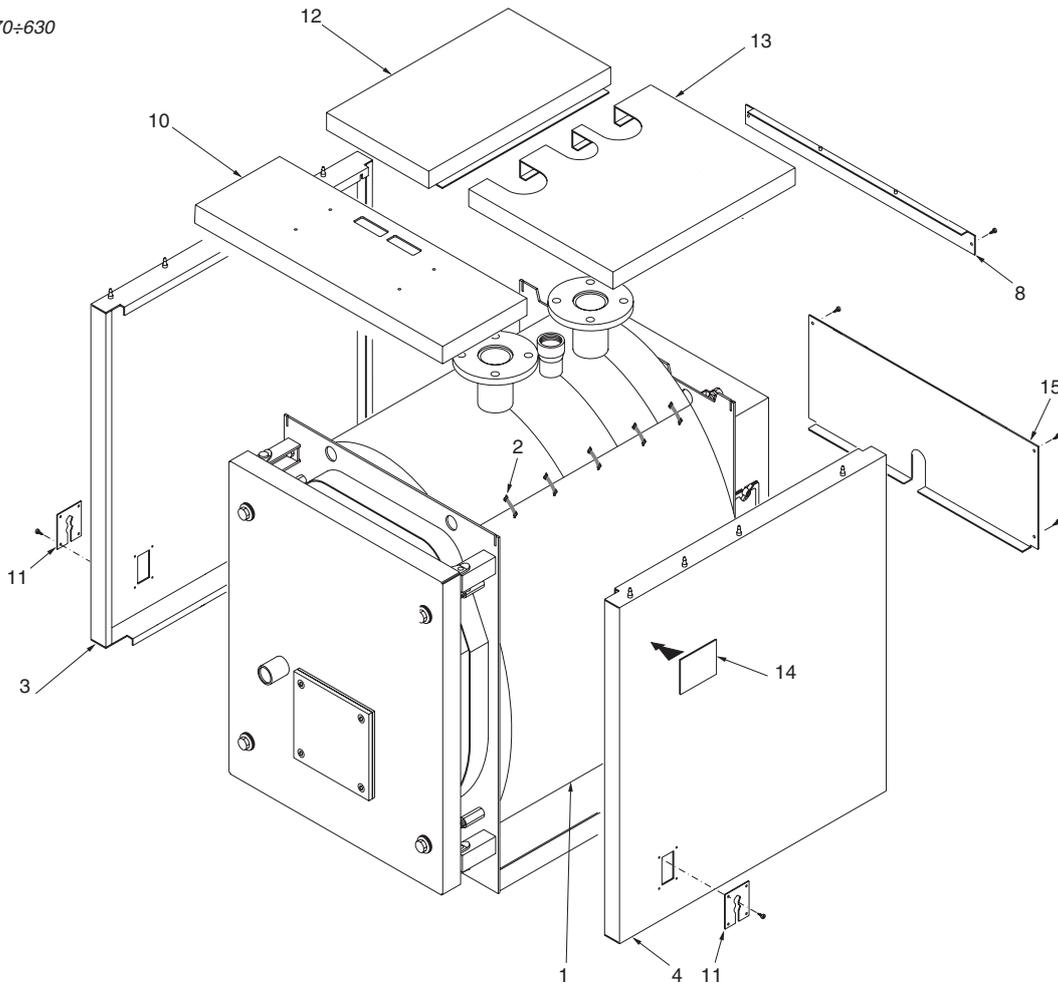
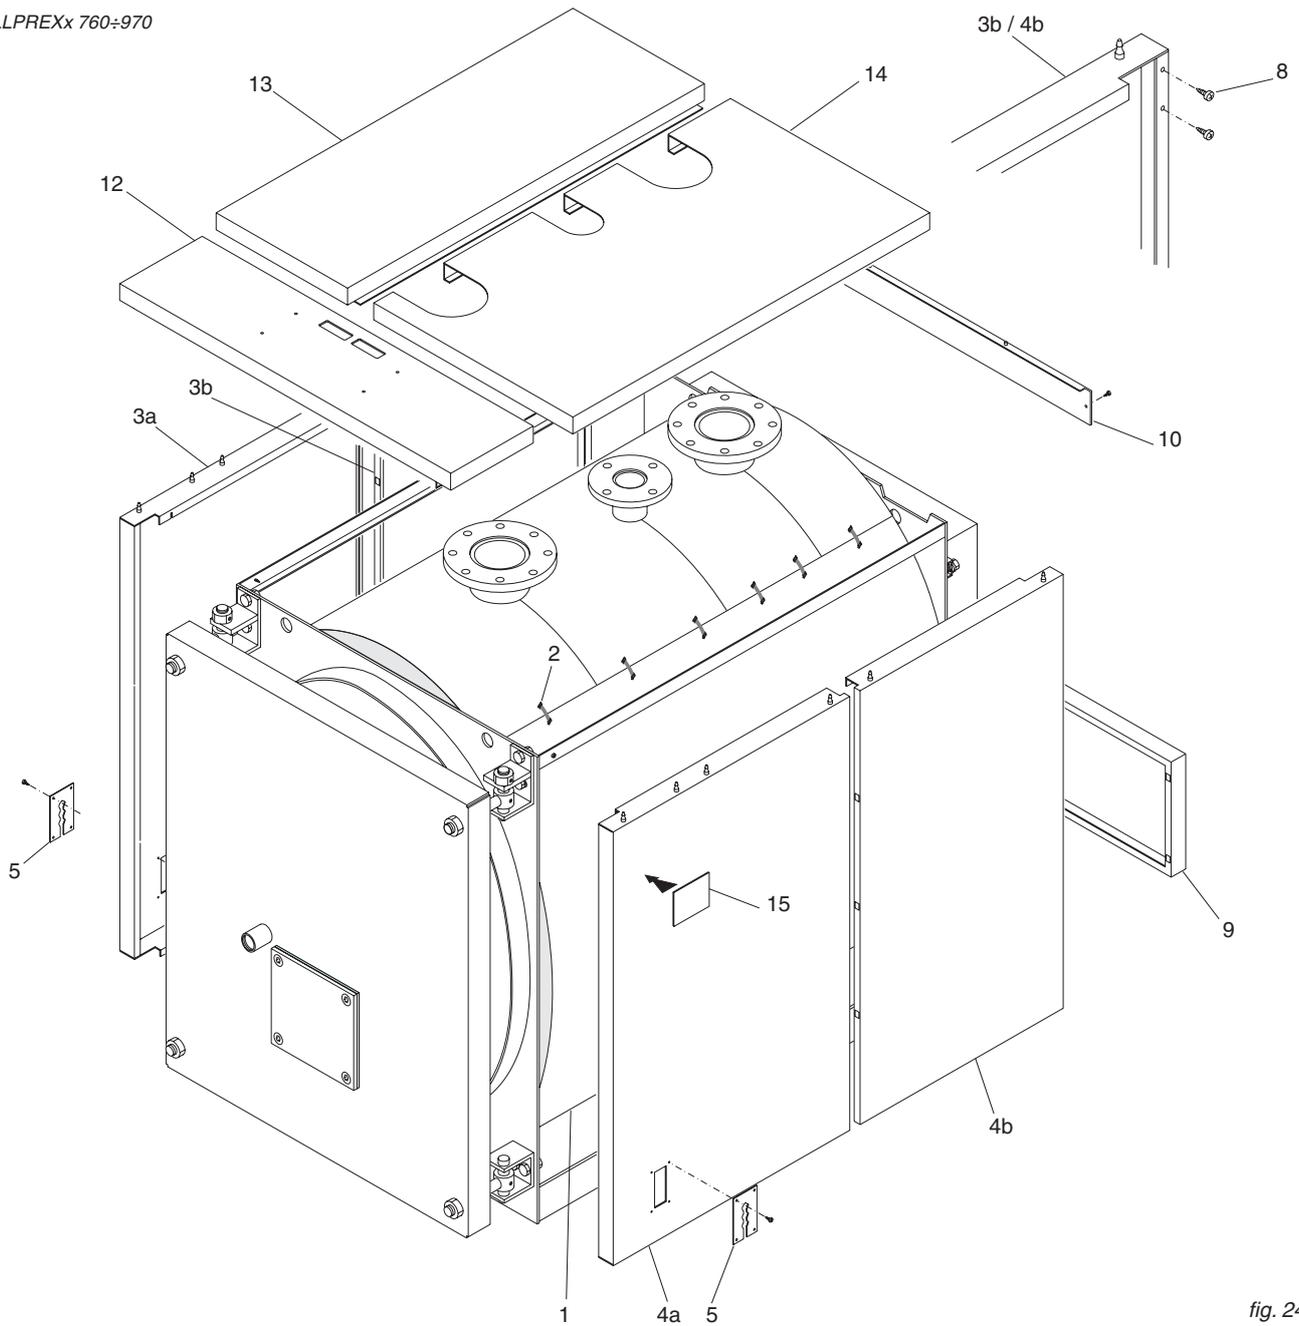

fig. 22
fig. 24
N.B. For the models **ELLx 170** to **ELLx 510** (ref. fig. 22), the casing and the insulation are contained in one carton stamped:
N.B. For the model **ELLx 630** (ref. fig. 22) and for the models **ELLx 760** to **ELLx 2200** (ref. fig. 24 & 25), the casing and the insulation are contained in 3 cartons stamped:
Refer to diagram on fig. 22 for details
Mounting sequence (Ref. fig. 24)